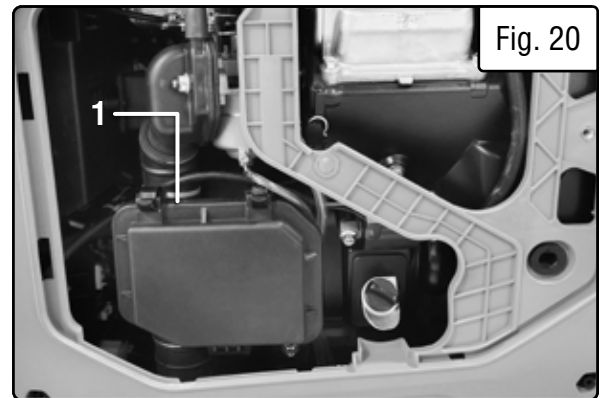

Fig. 20
2. Release the two latches on top of the air filter cover (Fig. 20 - 1), pull the air filter cover forward and down, and remove the foam air filter element from the casing.